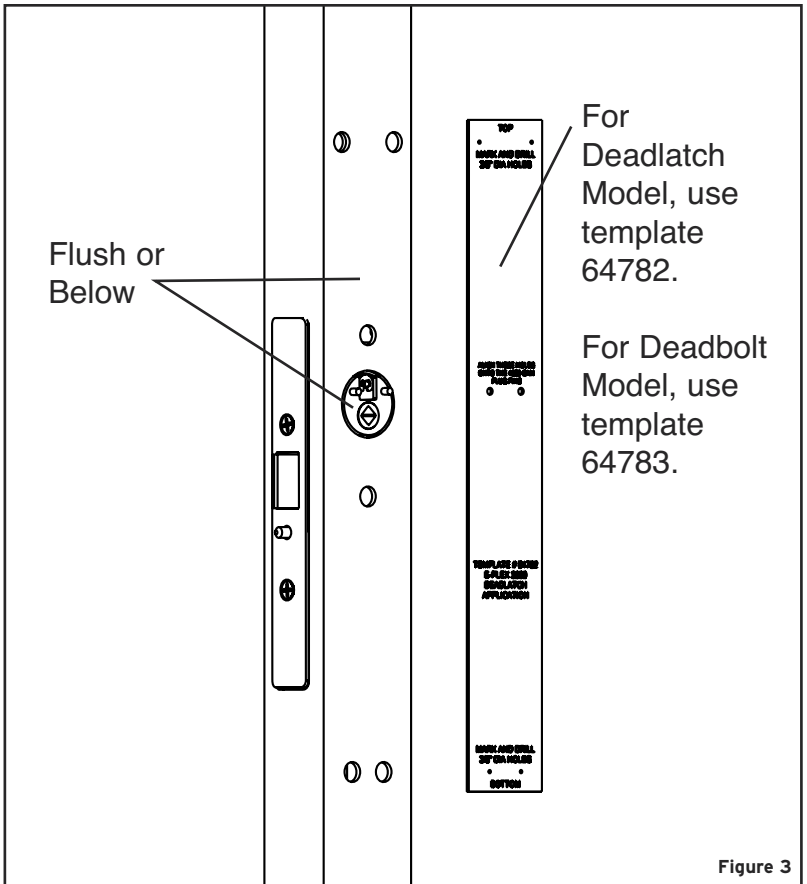

Figure 3
- B-2** Affix the appropriate model Template to the outside face of the door stile. Ensure the pins from the Cam Plug are through the proper holes, the template is straight and aligned with the edge of the door, and that "TOP" is facing up and "BOTTOM" is facing down **(See Figure 3).**